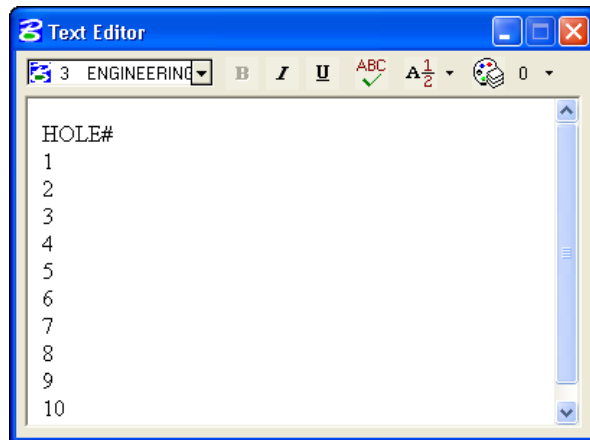

Figure P7-11 The Text Editor box containing the text for the first table column
STEP 5: In the Text Editor box, key-in all the text for the left table column, as shown in Figure P7-11.
STEP 7: Using the same method as steps 5 and 6 (and Figure P7-11), place the text in the X and Y table columns.
STEP 8: Place the text string below the table, as shown in Figure P7-11.